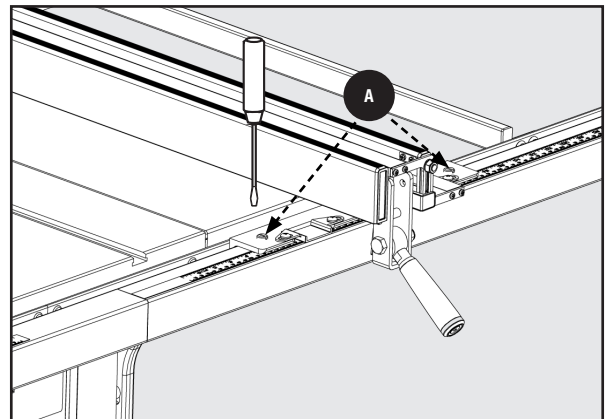

Figure 35
3. If the fence face is not perpendicular to the table, release the clamping lever and slightly adjust one of the slotted set screws **A**, Figure 35, until the fence face is perpendicular to the table.